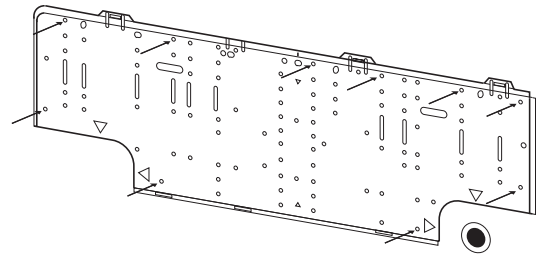

Fig. 1-36
- (1) Attach the rear panel to the wall with the 10 screws provided. (Fig. 1-36)